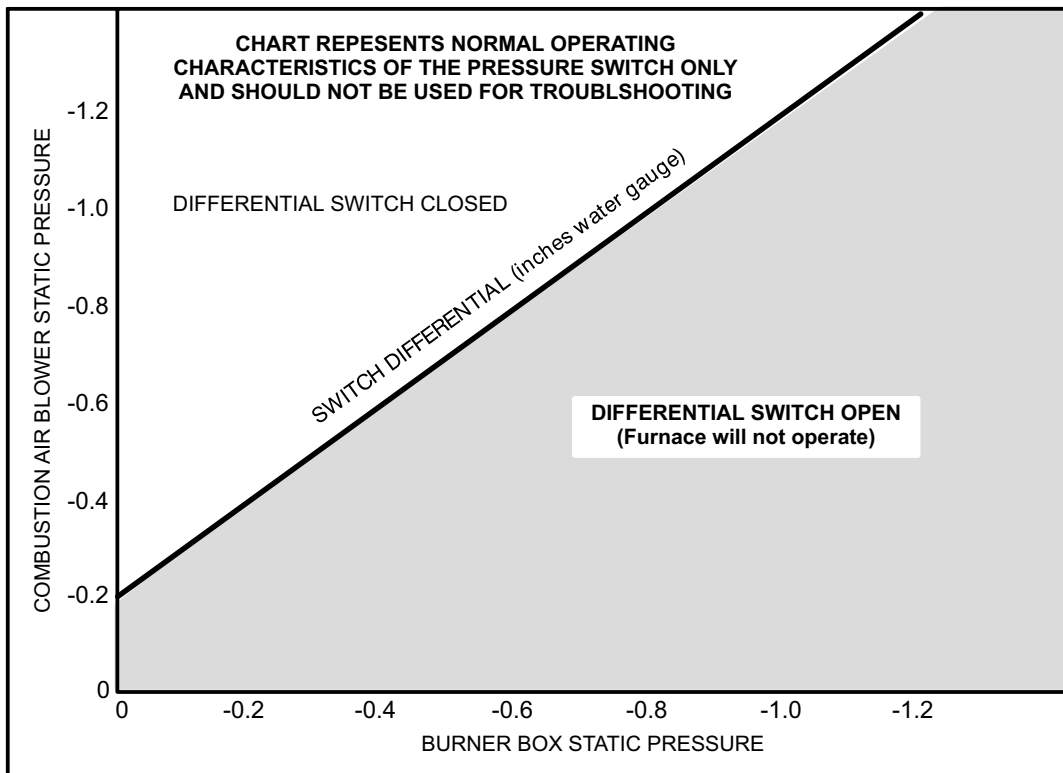

FIGURE 32
Figure 32 shows an example of the pressure differential (.25" W.C.. shown) required to obtain unit operation. If the switch does not successfully sense the required differential, the switch cannot close and the furnace cannot operate.
Checks of pressure differential can be made as an aid in troubleshooting. It is important to remember that the switch must see the required differential in order for the furnace to operate. Lack of differential usually indicates problems in the intake or exhaust piping but may indicate problems in the heat exchanger, condenser coil, header boxes, combustion blower or other components. Generally, if both readings are closer to zero (figure 32) the unit may have a restricted flue outlet or other problem. If both readings are farther from zero (figure 32) the unit may have a restricted flue inlet or other problem.
- Take a second reading after unit has reached steady state (approximately 5 minutes). Both readings should fall above the line shown in figure 32.
- 10- Compare readings to figure 32. Be sure to compare only like readings (compare startup reading to startup reading, then compare steady state reading to steady state reading). Subtract the absolute steady state readings from one another. This will be the pressure differential. **In order for the furnace to operate, the larger negative must always be on the combustion air blower side of the switch.**